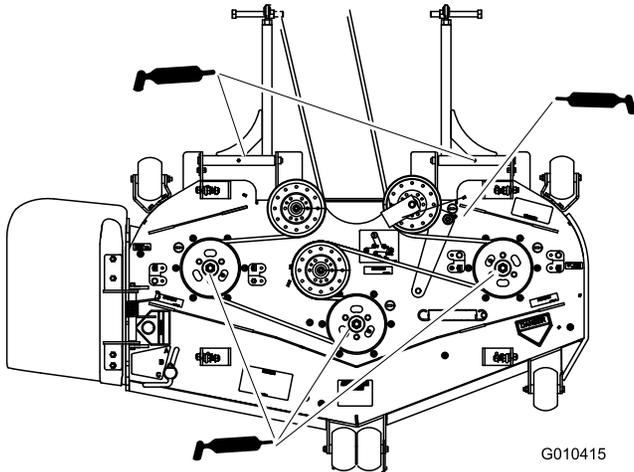

Figure 33
4. Grease the fittings on the 3 spindle bearings (Figure 33).
5. Grease the idler arm on the mower deck (Figure 33).
6. Grease the fittings on the push arms (Figure 33).